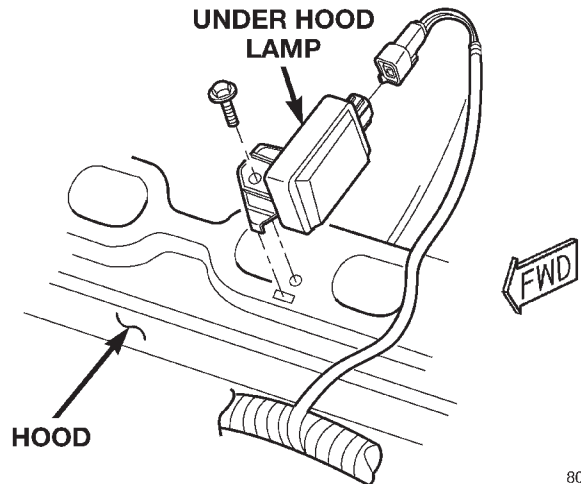

Fig. 7 Underhood Lamp
(1) Install bulb.
(2) Install lamp lens.
(3) Position the underhood lamp flange on the hood inner panel.
(4) Install the attaching screw through the lamp flange and into the hood panel (Fig. 7). Tighten the screw securely.
(5) Fold lamp housing over and firmly press onto base to snap into place.
(6) Connect the wire harness connector to the lamp.